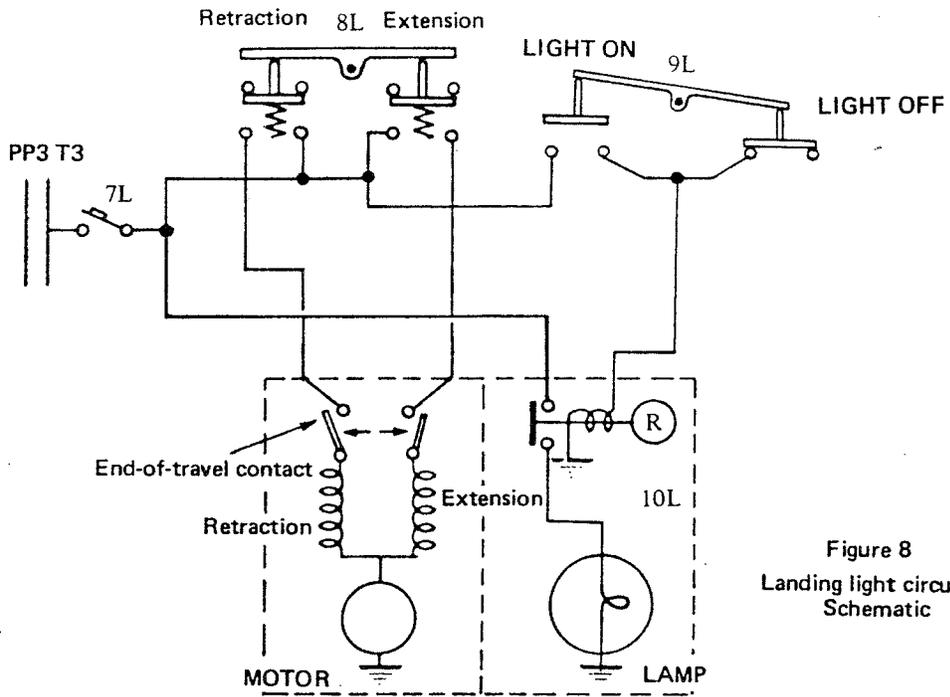

Figure 8
(2) LANDING LIGHT OPERATION (Figure 8)